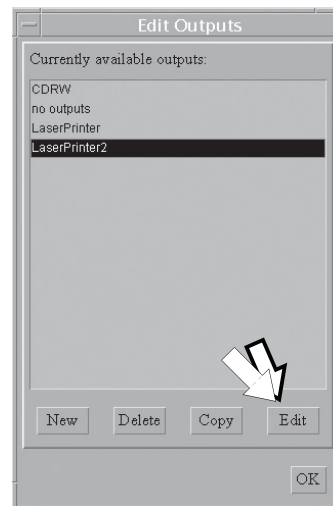

Figure 3-55: New Name in Edit Outputs Dialog Box
4. Select the new name (for example, LaserPrinter2) in the *Edit Outputs* dialog box, and click **Edit** (Figure 3-55).